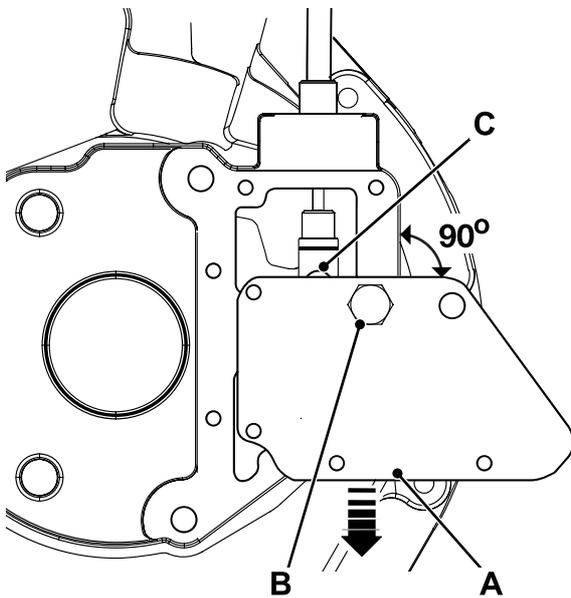

Fig 5.
- 5 Use the cover plate 5-A as a wear indicator. Use a bolt 5-B to fit the plate at right angles to the housing as shown. ⇒ Fig 5. \(□ G3-7\) Pull the plate down when tightening the bolt to take up the clearance in the bolt hole.